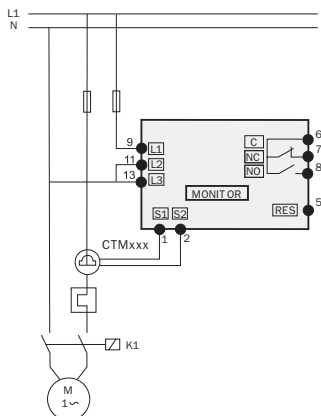

Fig 2. Single-phase wiring example.
2. For single-phase connection see fig. 2.